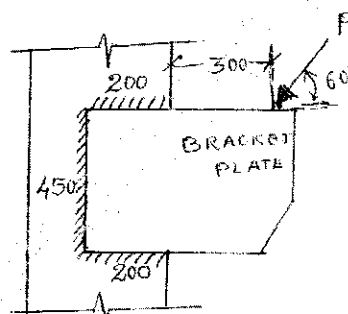

Fig. Q3 (b)
b. Determine the Bracket load 'P' the column can carry as shown in Fig. Q3 (b). Take size of weld as 8 mm, $f_u = 410 \text{ N/mm}^2$. (14 Marks)